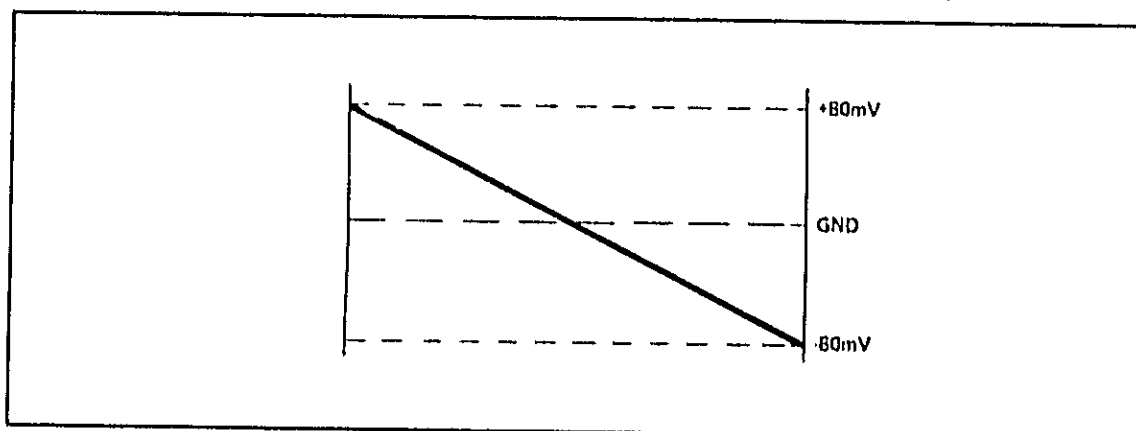

Figure 5-1. Typical Waveshape
- g. Adjust "TRIG BAL" (A15R6) for maximum linearity on scope display. Increase level to +10 dBm and readjust "TRIG BAL" again for maximum linearity. Maximum allowable display excursions is 80 mV above or below ground between 400 MHz and 530 MHz for drive levels of 0 dBm and +10 dBm. See Figure 5-1 for typical waveshape.